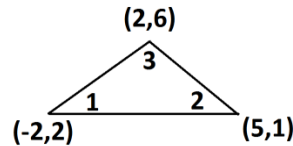

Fig. 7.
25) Compute the element matrices for the case shown in Fig 7. Heat conductivity is 2 W/m K . Convection coefficient is $0.2 \text{ W/m}^2 \text{ K}$ and the surrounding temperature is 40°C . The triangular co ordinates are $(2,6)$, $(5,1)$ and $(-2,2)$
36. Compute the element matrices for the case shown in fig. 7. Heat conductivity (k) is $2 \text{ W/cm}^\circ\text{C}$, Convection is $0.2 \text{ W/cm}^\circ\text{C}$ and surrounding temperature is 40°C .